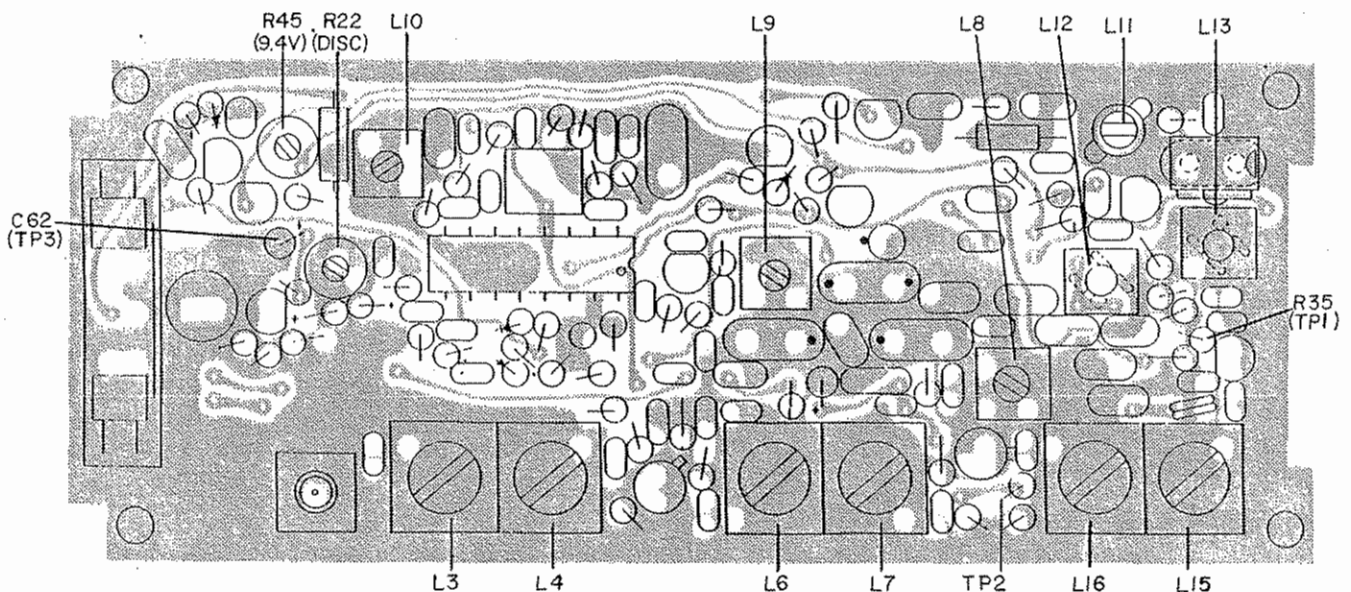

Figure 5-4
3. Set the unit for "Base" mode with both tones (A and B) off. Refer to figure 5-4 and adjust the receiver discriminator output level (R22) to midrange.
3. Adjust the receiver discriminator output level (R22) for 3 kHz deviation on the modulation monitor (figure 5-4).